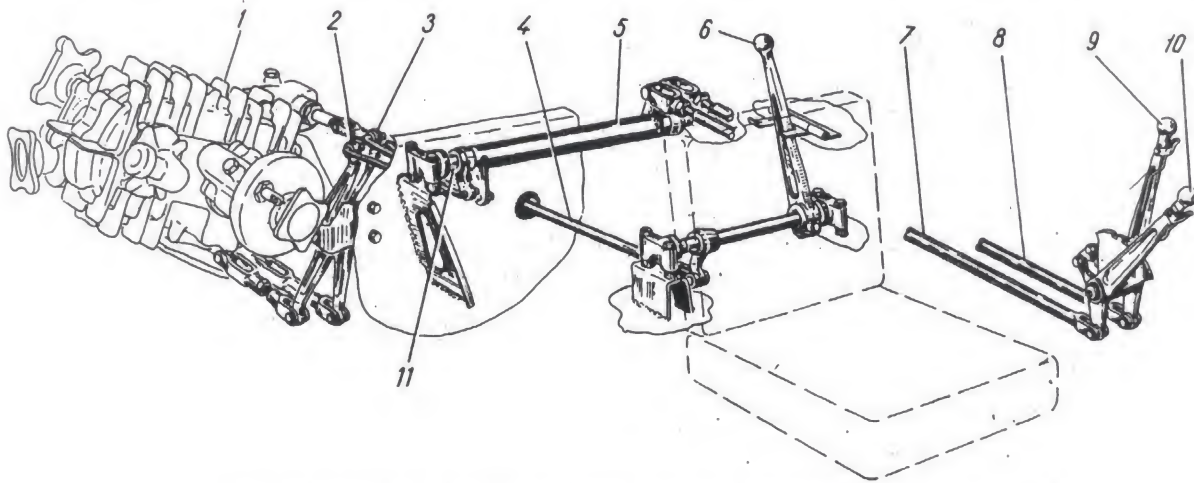

FIG. 36. FRONT AXLE, RANGE AND AUXILIARY WHEELS CONTROL LINKAGE
Front axle control, range control and auxiliary wheels control linkage is shown in Fig. 36.
1. Latch front axle control lever 10 (Fig. 36) in the rearward (disengaged) position, range control lever 9 in the middle (neutral) position.
The power take-off is controlled with control lever 6 (Fig. 36) which has two positions: forward (when the auxiliary wheels drive is engaged), and rearward (when the auxiliary wheels drive is disengaged).